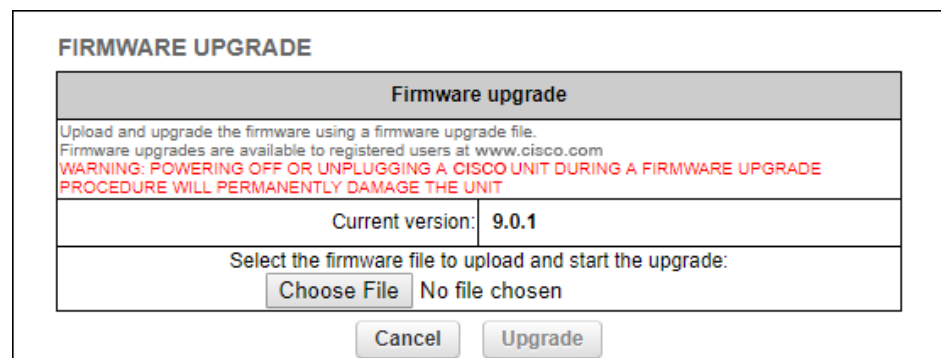

Figure 52. Configurator GUI (typical FIRMWARE UPGRADE dialog)
- The **FIRMWARE UPGRADE** dialog will be shown (Figure 52 (page 97)).